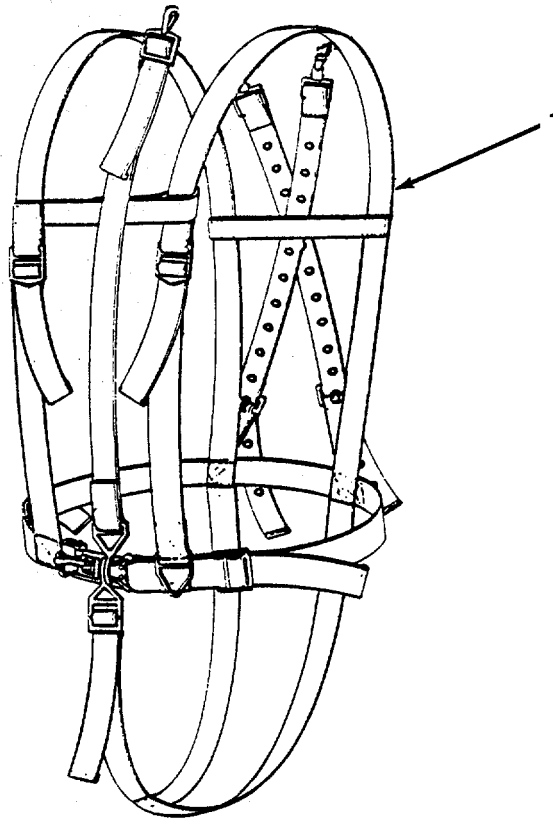

Figure 4-8. Straps, Replace.
- (1) *Replace straps.* (figure 4-8)
- (a) Cut stitching on worn strap (1) and remove.
- (b) Stitch new strap (1) into place after cutting to length plus enough to fold over prior to stitching.